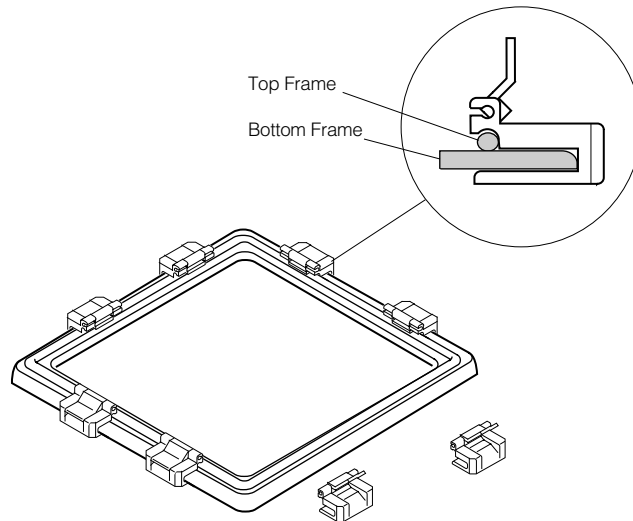

Fig. 8. Clamping the drying frame.
8. Clamp the top frame to the bottom frame using two clamps per side. Before positioning a clamp, make sure the latch is up. Slide the clamp over the edge of the cellophane and onto the bottom frame until it is seated over the top frame (Figure 8). Push the latch down to lock it in place.